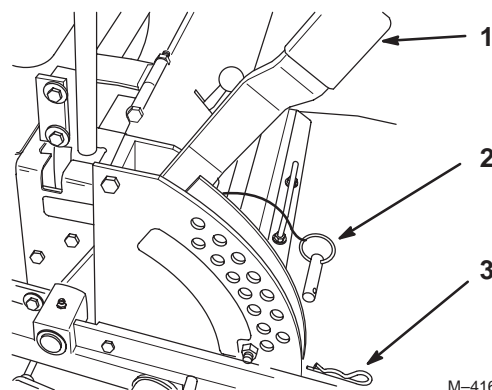

Figure 21
1. Raise the height-of-cut lever to the transport position (also the 5 inch (127 mm) cutting height position) (Fig. 21).
2. To adjust, remove hairpin cotter and clevis pin from height-of-cut bracket (Fig. 21).
3. Select hole in height-of-cut bracket corresponding to the height-of-cut desired and, insert clevis pin (Fig. 21).
4. Secure clevis pin with hairpin cotter (Fig. 21).